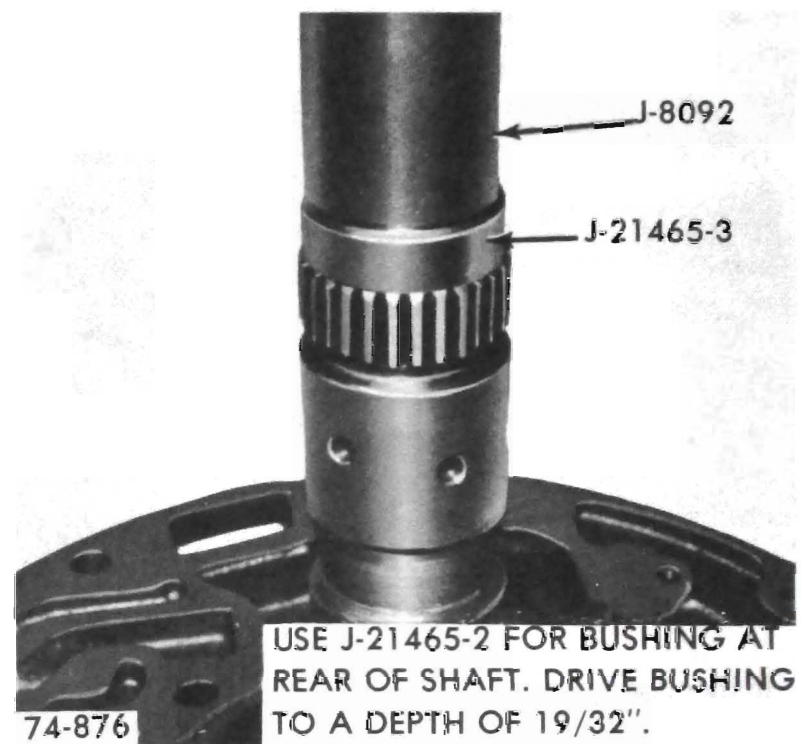

Figure 76-166
b. Using Installer J-21465-3 install bushing in front of shaft. See Figure 76-166.
c. See Figure 76-166 for installation of bushing in rear of shaft.